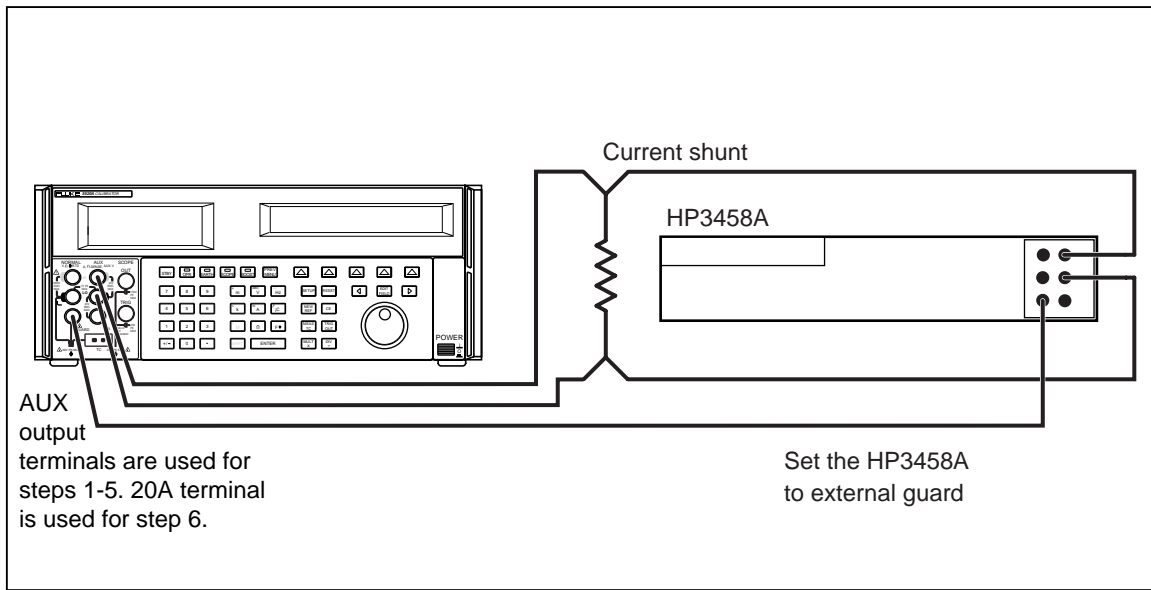

Figure 3-6. Connections for Calibrating DC Current
4. Connect the DMM and 742A-1k Resistance Standard to the UUT as shown in Figure 3-6.